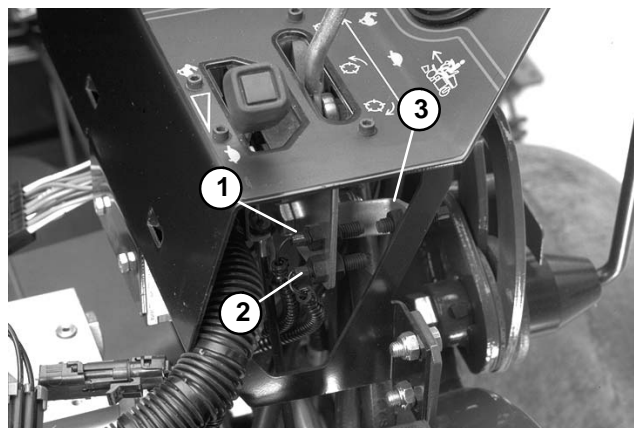

Figure 9
2. Place the Functional Control Lever in the NEUTRAL position. The NEUTRAL reed switch should have continuity and the MOW switch should be open (Fig. 9).
3. Place the Functional Control Lever in the MOW position. The NEUTRAL reed switch should be open and the MOW switch should have continuity (Fig. 9).